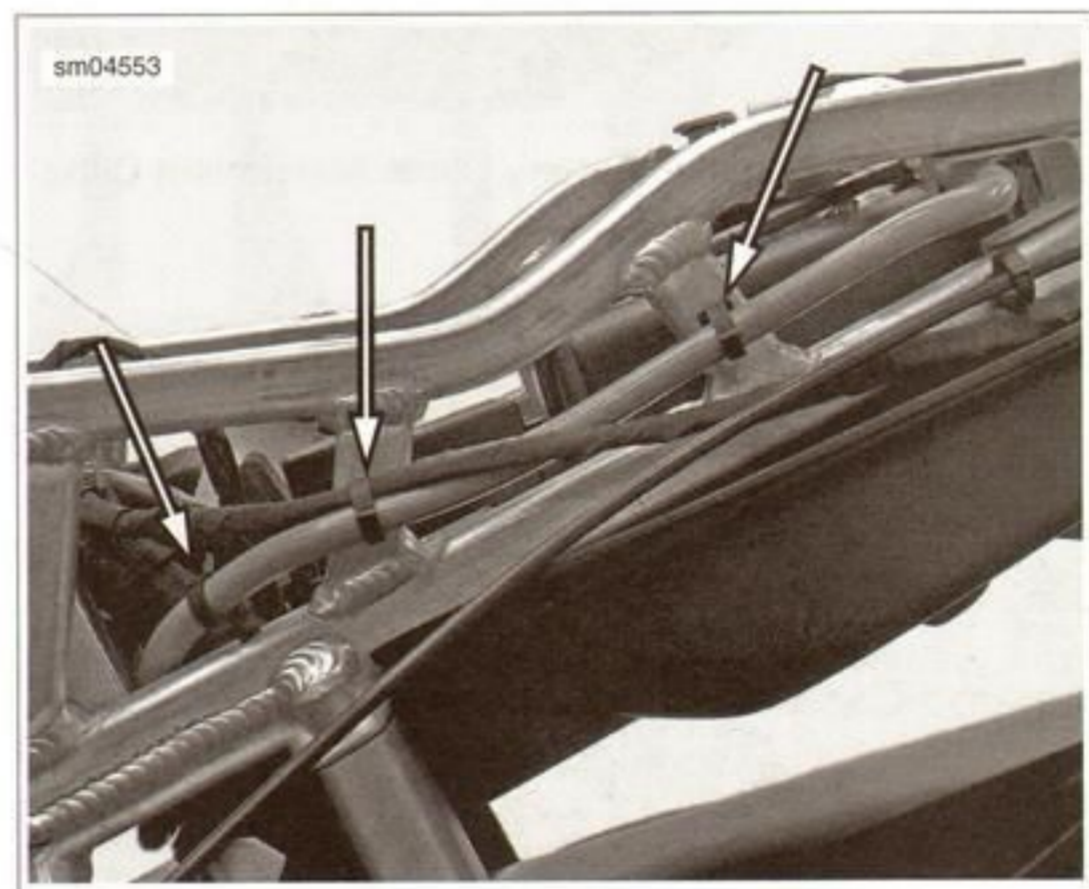

Figure 2-122. Positive Battery Cable Attachment Clips
8. See Figure 2-122. Remove the positive cable attachment clips.